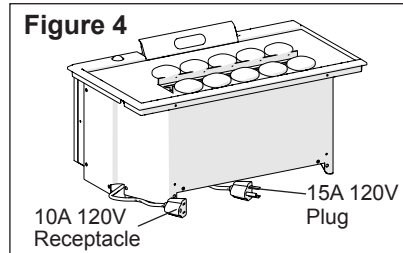

Figure 4
4. The unit is equipped with a power supply plug and a fused receptacle (Figure 4), the plug should be plugged directly into a 15 A, 120 V outlet.
ensure that the receptacle cord is positioned so that the face is perpendicular to the floor as in Figure 4.
5. The receptacle is intended for plugging in a heater (supplied with the mantel), which will allow the heater to be controlled with the provided remote. (Figure 4)
CAUTION: During operation ensure that the receptacle cord is positioned so that the face is perpendicular to the floor as in Figure 4.